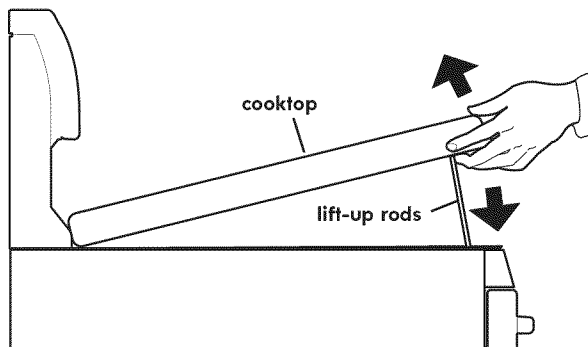

Fig. 1
2. While holding the drip bowl and surface element, gently pull the terminal end out from terminal plug (See Fig. 1).
1. Slide the terminal end on the surface element through the opening in the drip bowl (Refer to Fig. 1).
3. After the surface element is positioned in the drip bowl, line up the terminal end with the terminal plug as shown (Fig. 1).
2. Grasp the sides of the cooktop and then lift from the front (See Fig. 1).
1. Open oven door completely (horizontal with floor - Fig.1).
3. Fully open the oven door (horizontal with floor - Fig. 1).